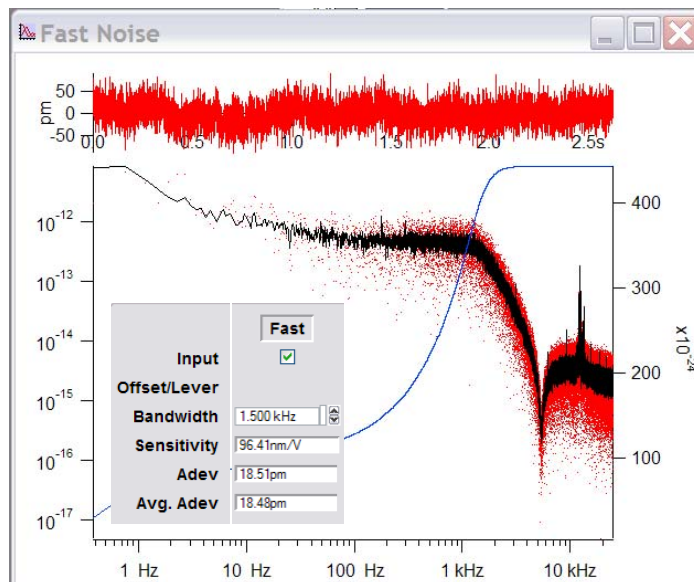

Figure 16.3.1: A typical 'Fast' Free Air noise spectrum; Inset- Avg.Adev. values for tip/ system used in example.
16.2: Scanner calibration: The health of the scanners can be monitored in the Calibration tab of the 3D Test Panel (Figure 16.3.1). *Here, the scanners won't be calibrated, but the amount of piezo hysteresis that the closed loop sensors monitored can be viewed.*
✓Hit the 'Start' button; A noise plot comes up which shows the sampled noise (Figure 16.3.1). The fast input free air value should be less than **30 pm** to meet AR's specs (Table 16.1).